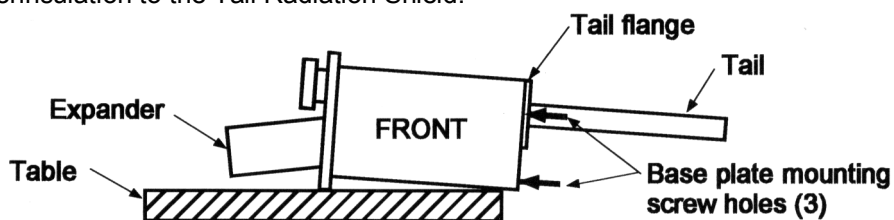

Figure 4-21. OmniPlex Orientation for Base Plate Installation
- Install Tail Vacuum Shroud. Locate and unpack the tail vacuum shroud and its O-ring. Clean and install the O-ring in the groove of the Tail Vacuum Shroud. Carefully slide the Tail Vacuum Shroud over the Tail Radiation Shield. Rotate to align so the part number sticker is at the outer diameter of the vacuum shroud and the screw holes are aligned. Use a 5/32" hex wrench to install the (6) #10-24 × 5/8" SHC screws.
- Install the base plate. Hang tail end of OmniPlex vacuum shroud just over edge of table (Figure 4-21). Orient base plate according to the appropriate instructions below.
EM7 base plate only (672-142): Note that the large hole in the base plate for the tail is not centered. The thin section must be on the back side of the OmniPlex (the 4-pin electrical connector faces the back). The 1/4" screw hole farthest from the large center hole must be under the expander side of the OmniPlex (down in the orientation shown in Figure 4-21). Align the three small holes with the screw holes in the base of the OmniPlex vacuum shroud.